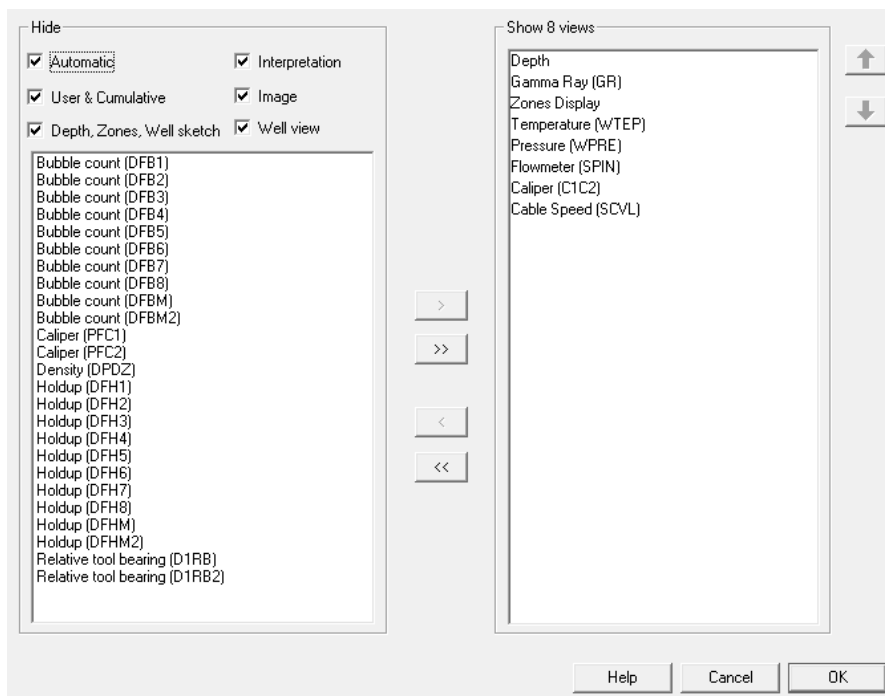

Fig. B05.3 • Show/hide views
- Click the  option next to the hidden plot list to access the dialog below, Fig. B05.3.